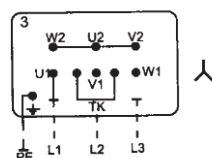

Fig. 2
- 1) Modificare i collegamenti sulla morsetteria del motore, da stella a triangolo (fig. 2).
- 1) Change into triangle star connections between motor and terminal board (see fig. 2).
- 1) Modifier les raccordements sur la plaque à bornes du moteur d'étoile à triangle (fig. 2).